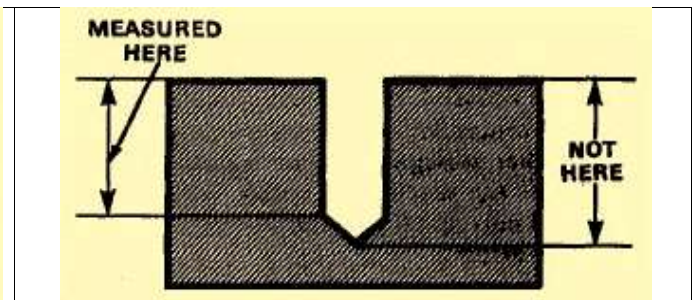

Figure 4-36. Checking the depth of the drill holes
**Depth of Drilled Holes:** To accurately check the depth of a drilled hole, the length of the sides of the hole must be measured. Do not measure from the bottom point of the hole (Figure 4-36). A thin depth gage is inserted into the hole, along the side, and the measurement taken. If the hole is too small for the gage to fit down into it then a twist drill of the same size as the hole can be inserted into the hole upside down, then removed and measured with a rule...